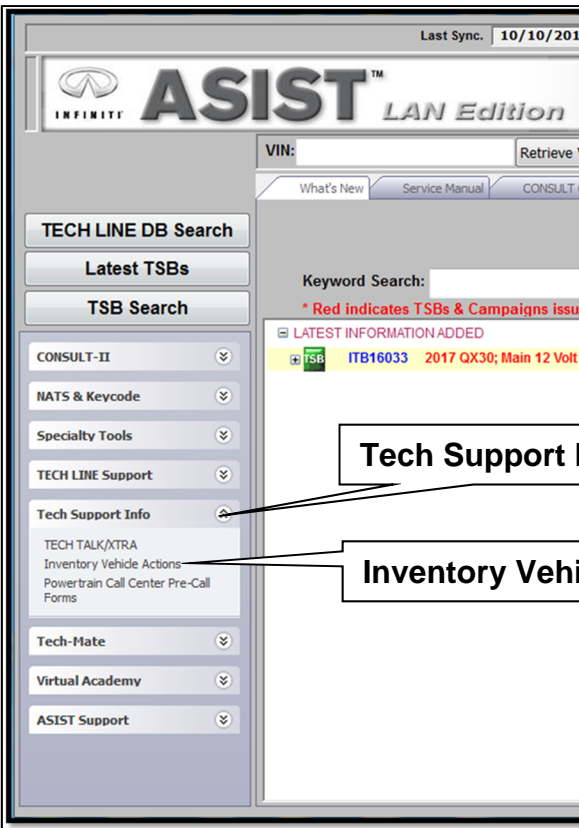

Figure 8
5. On the left side of the ASIST main menu (Figure 8), select **Tech Support Info**, then **Inventory Vehicle Actions**.